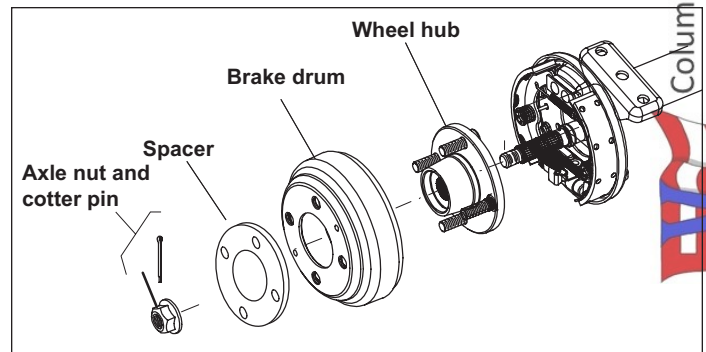

Figure 7-4. Rear Mechanical Brake Drum and Hub
- 3a. Mechanical Drum Brake: Remove lug nuts and remove rear wheel/tire assemblies. Remove and discard cotter pin and axle nut. Release brake and remove spacer and rear brake drum (Figure 7-4). Repeat for other side.